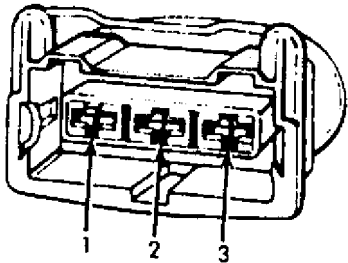

Fig. 8: Terminal Pins Idle Stabilizer Valve Connector ID
- 3) With stabilizer valve disconnected, connect voltmeter between terminal No. 2 of the idle stabilizer valve connector and ground. With ignition on, battery voltage should be present. See Fig. 8.